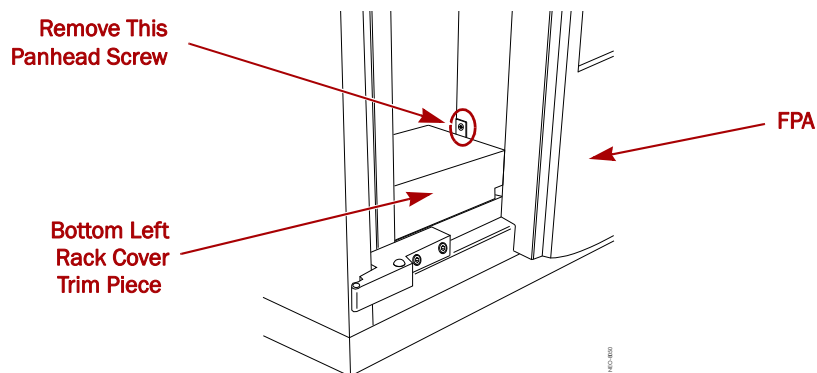

Figure 1-4: Remove the Bottom Left Rack Cover Trim
- a. At the left bottom rack cover trim piece, remove the **screw** attaching it to the FPA (Figure 1-4).